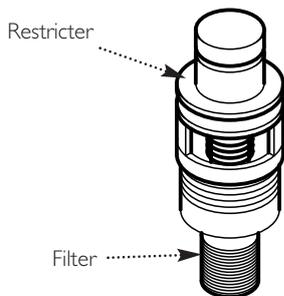

Fig. 78
18. Turn the tap off and draw off from a hot tap. Undo the blanking cap and remove the threaded bush (Fig. 78).